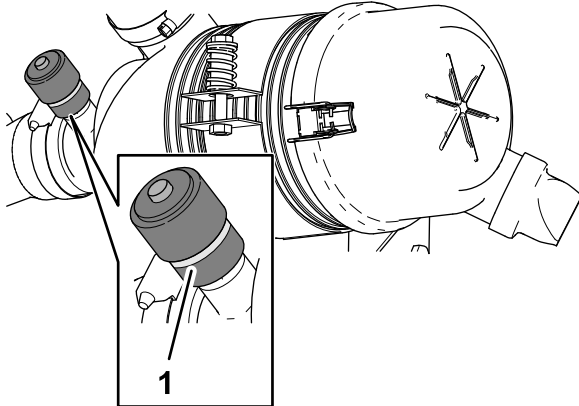

Figure 112
3. Check the service indicator at the end of the air filter housing (Figure 112).